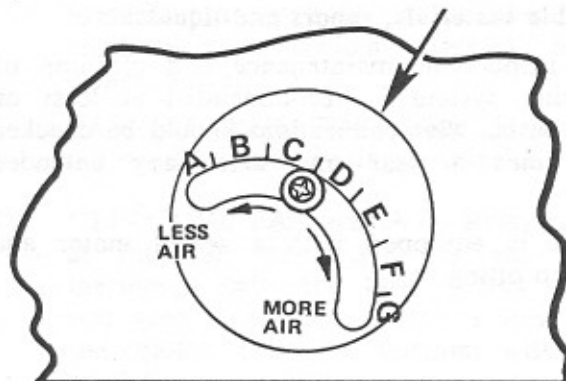

FIG. 6
During extreme cold the air shutter should be moved closer to the 'A' setting, refer to FIG. 6 and SECTION "12. SERVICE HINTS, DIAGNOSIS AND CORRECTIVE MEASURES".
3. Burner rumble (pulsation). High voltage to the furnace, over 13.5 volt DC and/or extreme cold can cause the burner to rumble or pulsate. This can be corrected by moving the air shutter (FIG. 6) toward "A". Do not move the air shutter any further than necessary to correct the noise. Reducing the air too much can result in poor performance and reduced efficiency.